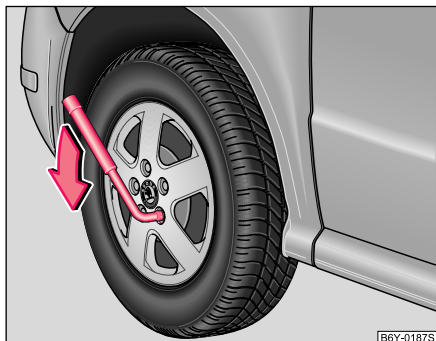

Fig. 144 Changing a wheel: Slackening wheel bolts
- Grasp the end of the wrench and turn the bolt about **one** turn to the left ⇒ **fig. 144**.